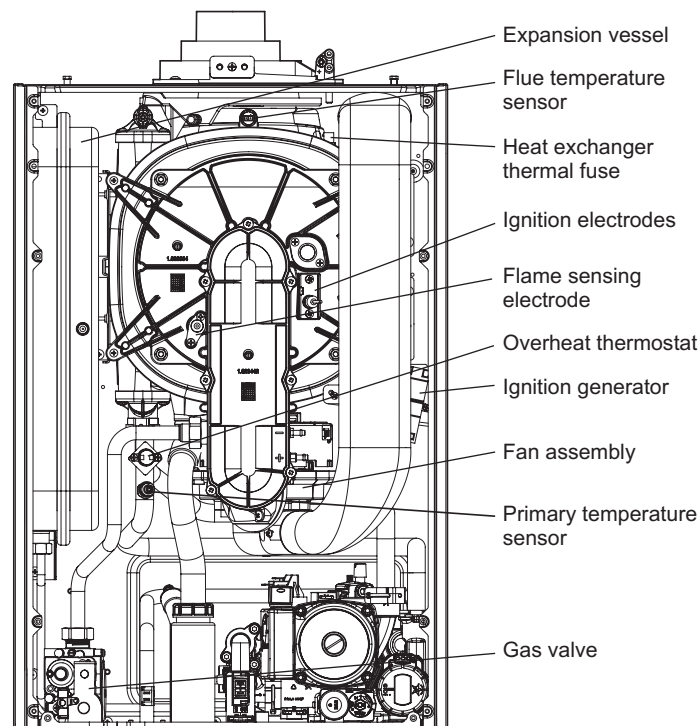

Fig. 30
7.3 ELECTRODES - Fig. 30
7.7 IGNITION GENERATOR - Fig. 30
7.8 OVERHEAT THERMOSTAT - Fig. 30
7.9 FLUE TEMPERATURE SENSOR - Fig. 30
7.10 GAS VALVE - Fig. 30
7.19 PRIMARY HEAT EXCHANGER - Figs. 30, 33
3. Unplug the connections from the flue temperature sensor and thermal fuse, see Fig. 30.